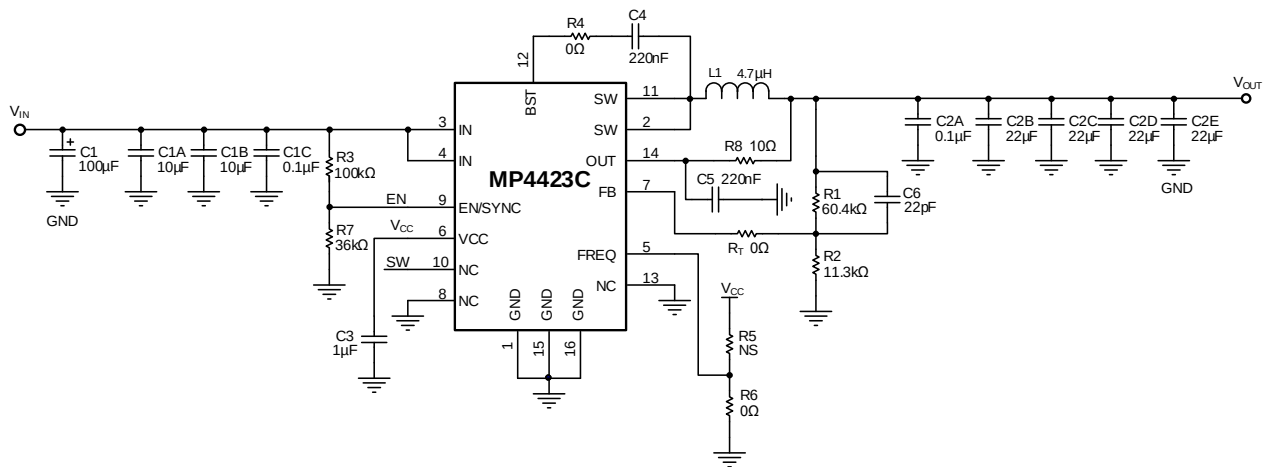

Figure 9: Typical Application Circuit ($V_{IN} = 12V$, $V_{OUT} = 5V$, $I_{OUT} = 6A$, $f_{SW} = 420kHz$ with Frequency Spread Spectrum)
- 9) The recommended PCB layout is based on Figure 9 on page 20.